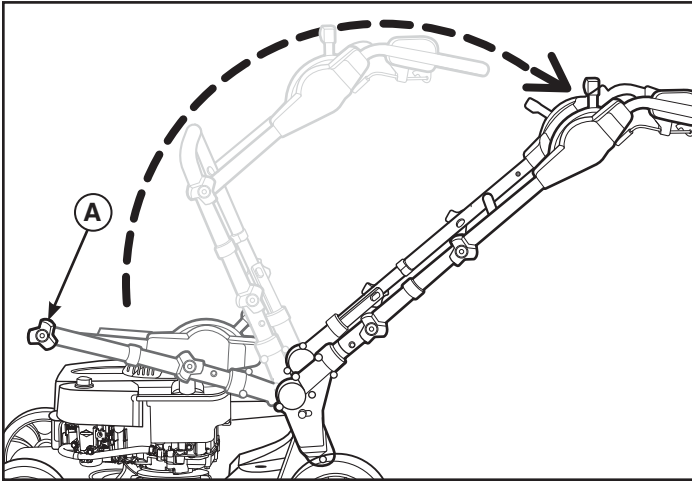

Figure 2
1. Loosen the lower handle knobs (A, Fig. 2) at the left and right handle brackets.